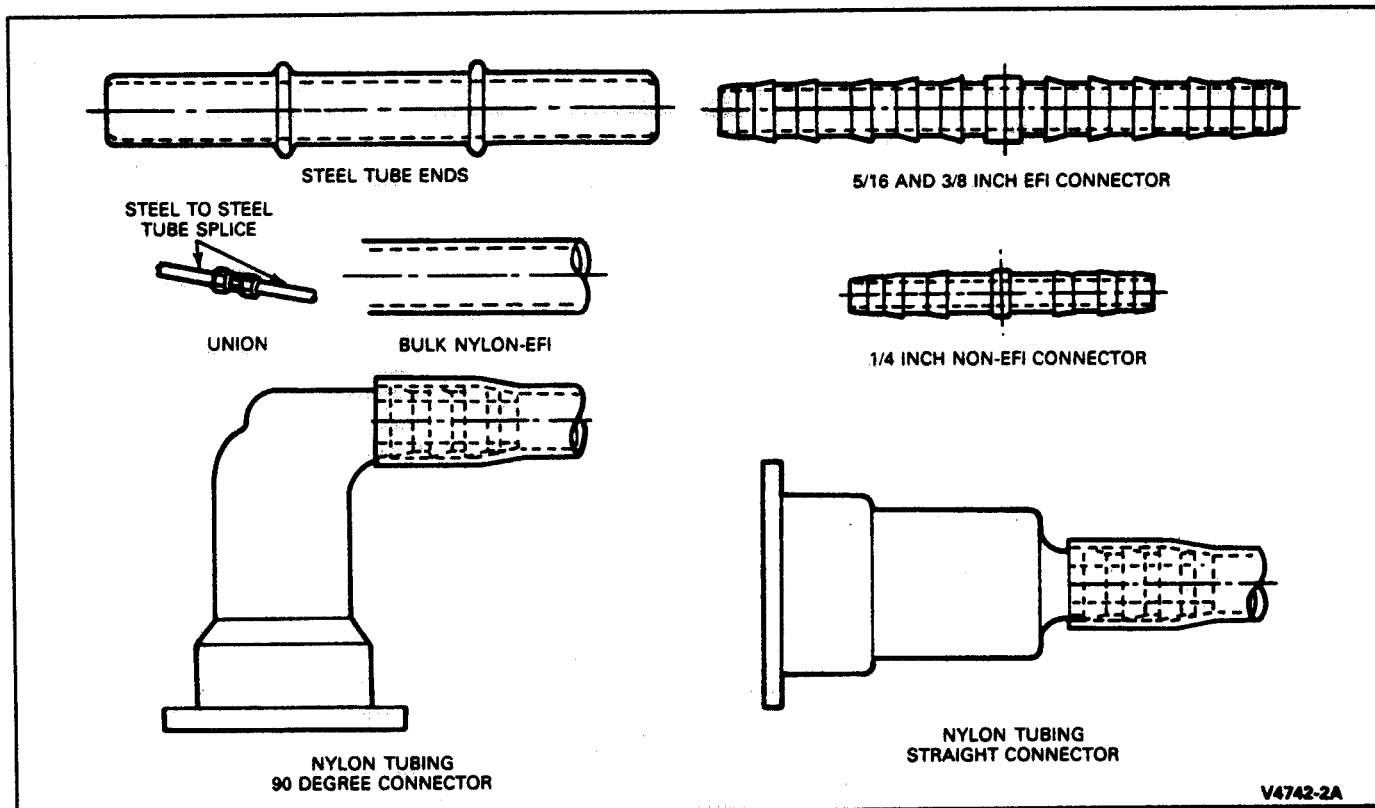

FIG. 31 Fuel Line Service Parts
NOTE: To make hand insertion of the barbed connectors into the nylon easier, the tube end must be soaked in a cup of boiling water for one minute immediately before pushing the barbs into the nylon. Refer to Fig. 31 for all splicing service combinations.
3. Select the proper size replacement push connector and nylon tube assembly (Fig. 31).
3. Choose a proper replacement push connect tube end (refer to Fig. 31).